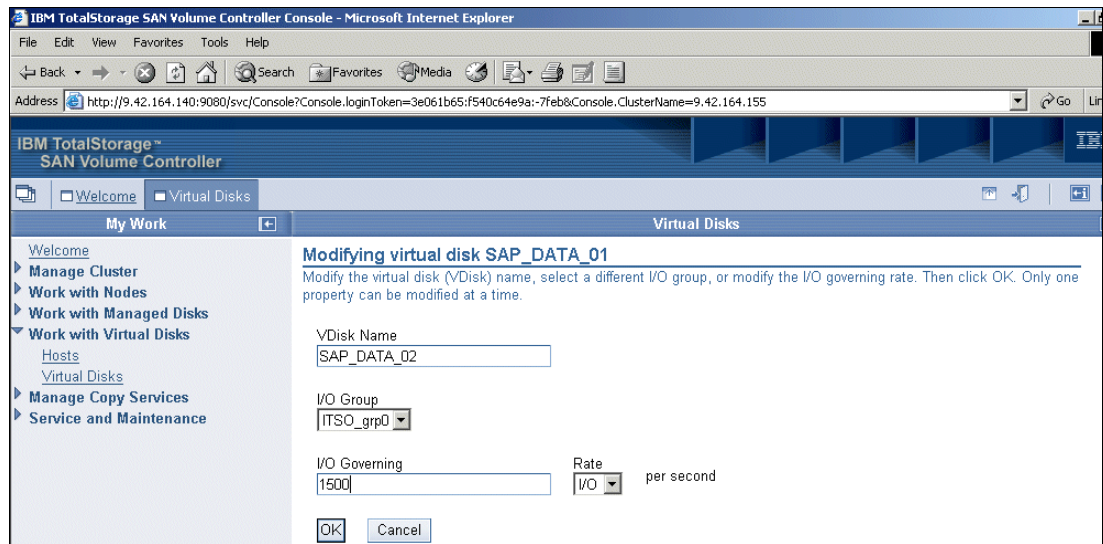

Figure 9-72 Modifying a vDisk
2. The Modifying virtual disk *vDiskname* panel (where *vDiskname* is the vDisk you selected in the previous step) opens. See Figure 9-72. You can perform the following steps separately or in combination: